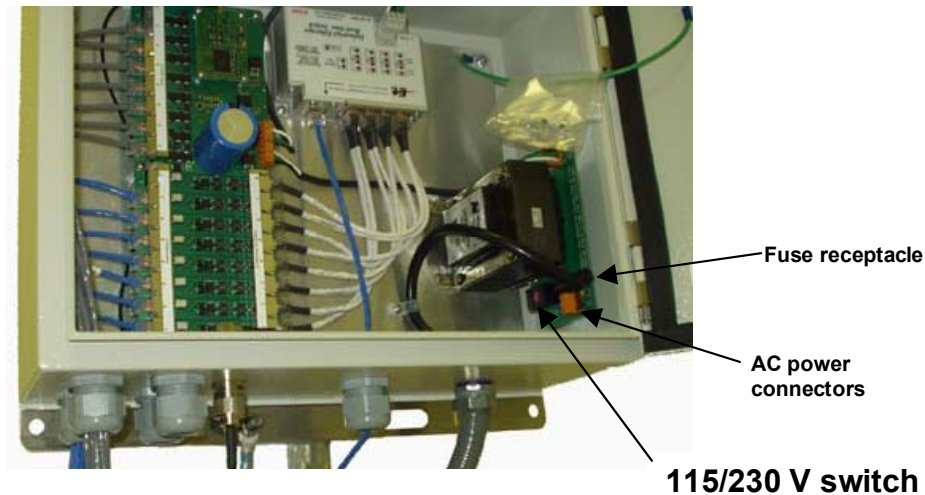

Figure 25: Location of 115-/230-volt switch
6. For a single AP that is collocated with a CMM, connect the module to an Ethernet/Power port on the CMM, as shown in Figure 25.